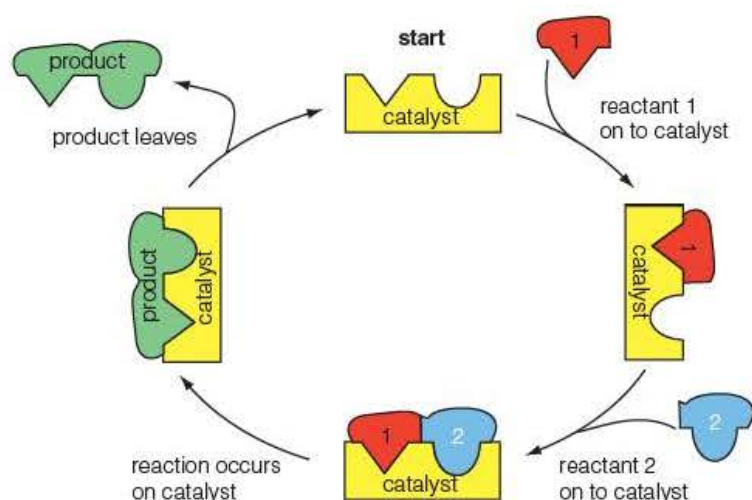

Figure 18.9 ◀
- 9 a) Sketch a graph to show how the energy profile of the system might vary as the reaction proceeds from reactants to products for the catalysed reaction shown in Figure 18.9.